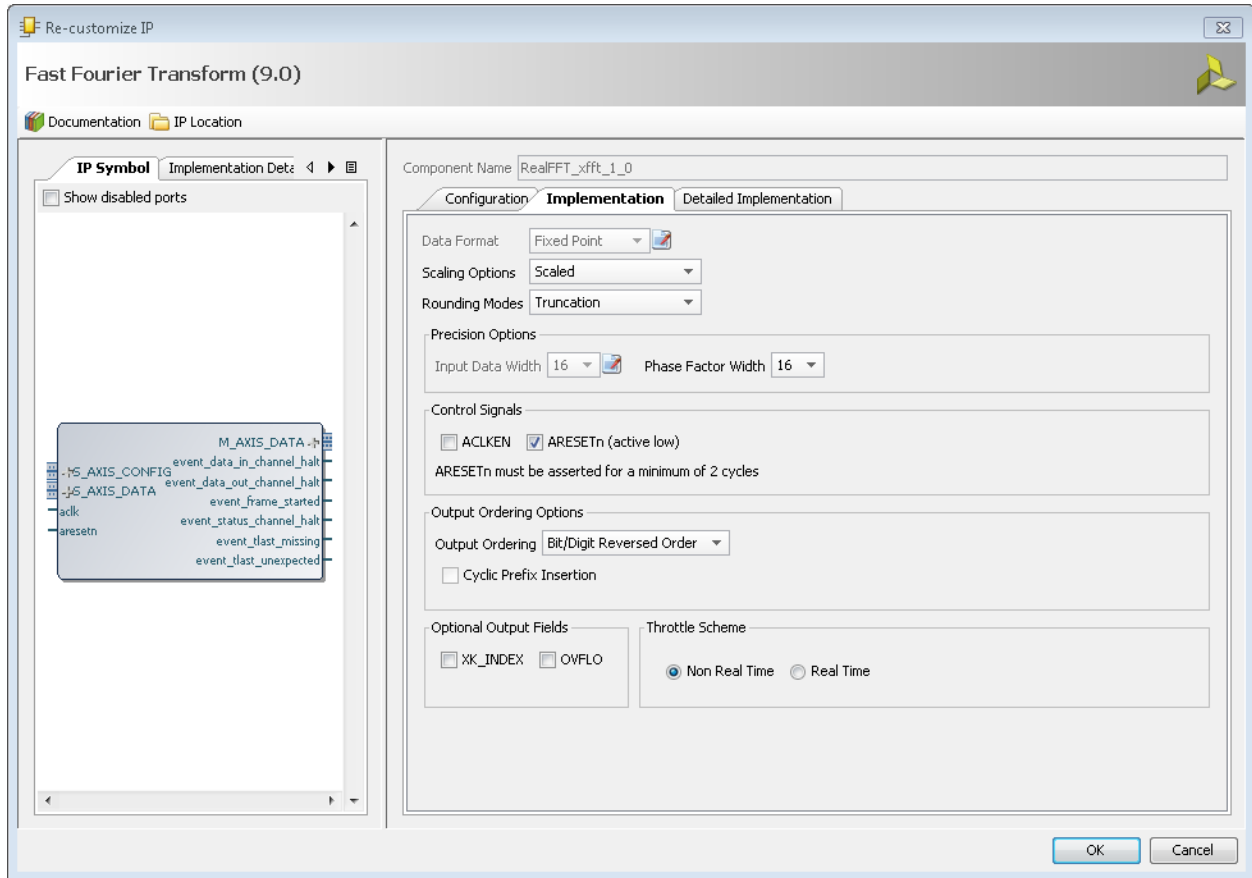

Figure 199: Xilinx FFT Implementation
5. Select the **Implementation** tab (Figure 199):